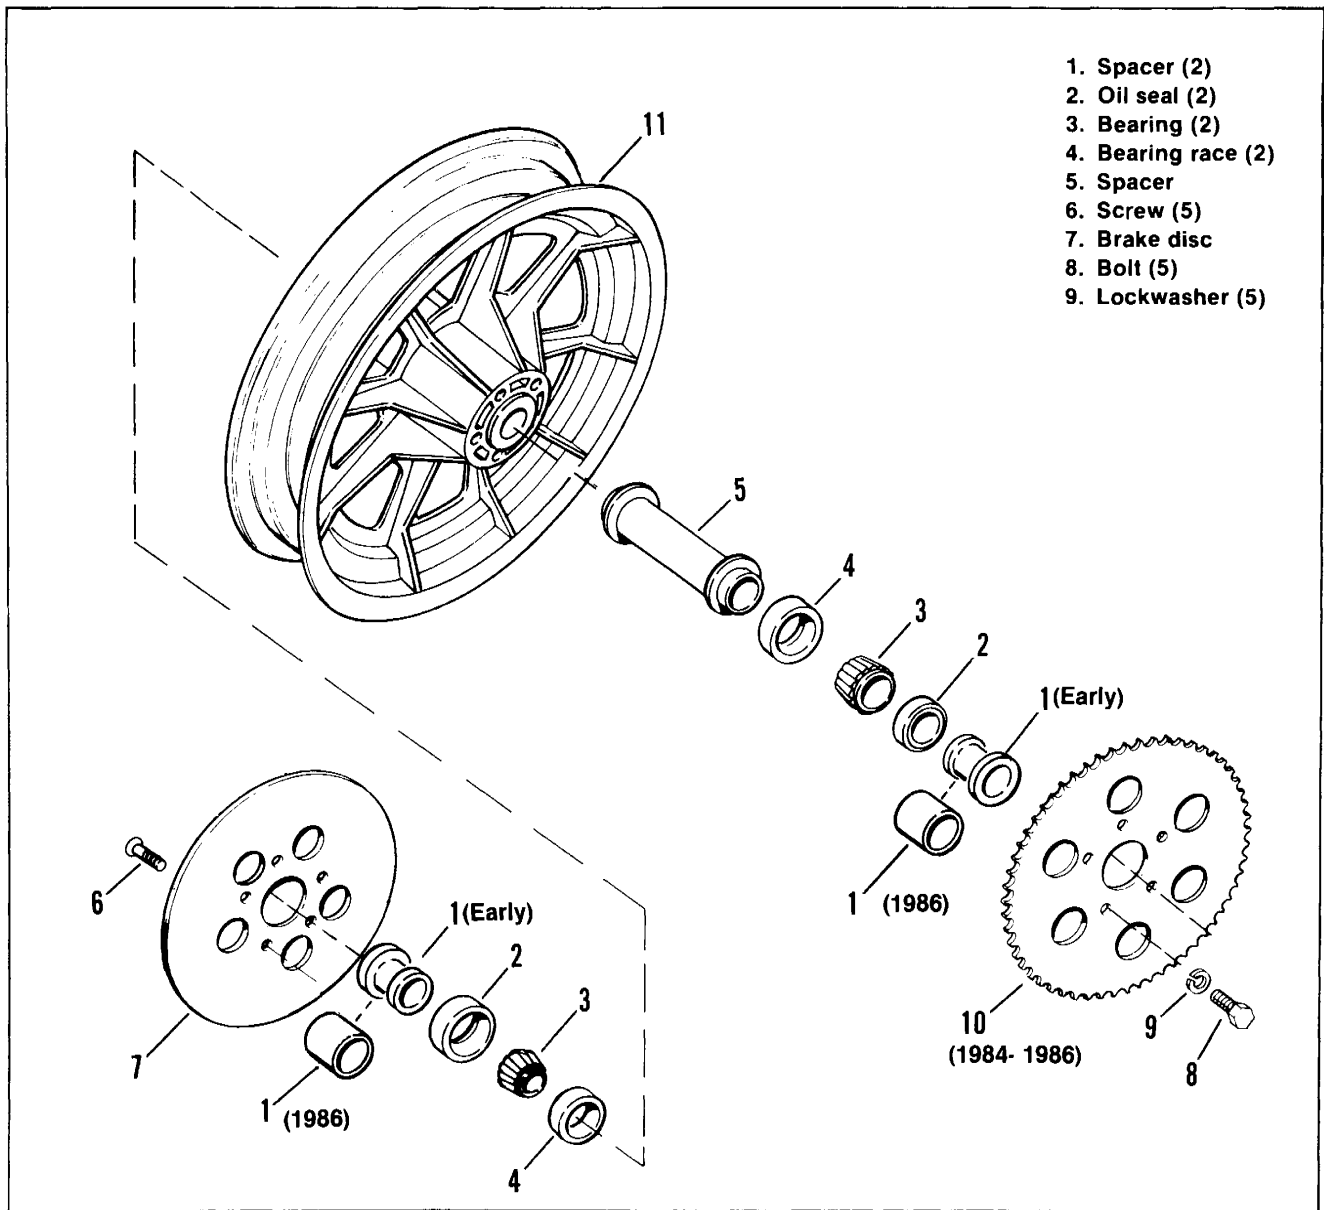

Figure 2-14. Cast Rear Wheel Open Chain Drive
DISASSEMBLY (Figure 2-14)
ASSEMBLY (Figure 2-14)
5. If end play is not 0.004 - 0.018 in., substitute a longer spacer (5, Figure 2-14) for more end play or shorter spacer for less end play.